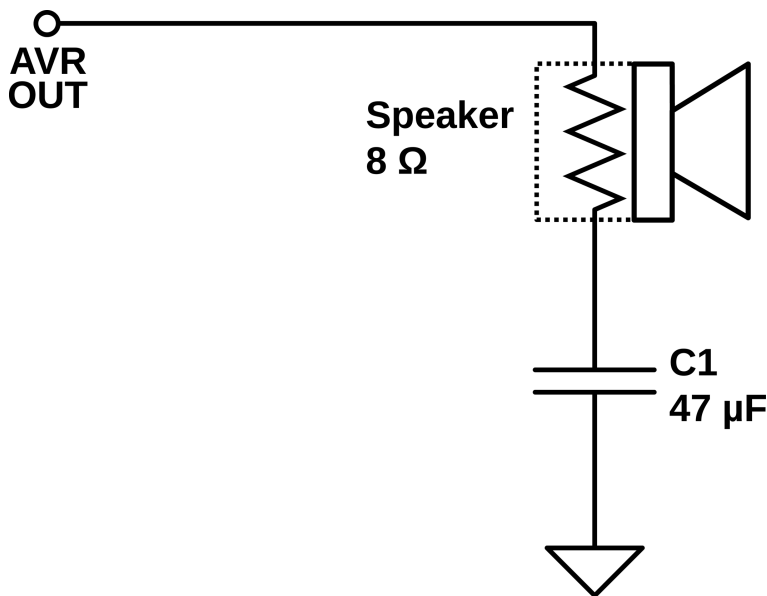

Figure 5-7. Speaker with a blocking capacitor
Microcontrollers are *not* meant to drive speakers. Speakers have a very low resistance to direct current (DC), around 8 ohms. For instance, if we run our AVR at 5 volts and we connect it directly to an 8-ohm speaker, a current of 625 milliamps (5 volts divided by 8 ohms) will be drawn, which is significantly more than the 20 to 50 milliamps that an AVR pin is good for. The solution is to add a *blocking capacitor* to the circuit, as shown in Figure 5-7.